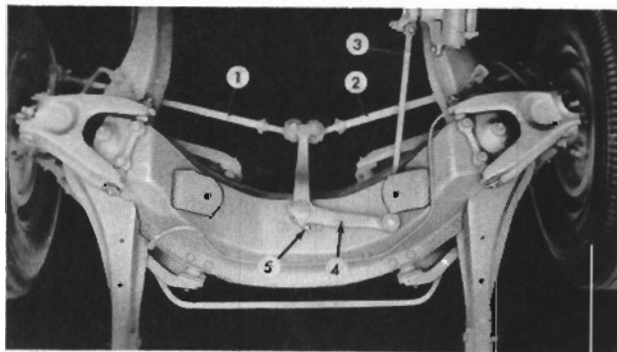

FIG. 34
Disconnect the tie rods (1 and 2, Fig. 34) and reach rod (3) from the bell crank (4). Remove the retaining bolt (pinch bolt) (5) which holds the bell crank to the shaft. Remove the lubrication fitting from within the hole at the rear of the crossmember. Remove the bell crank bearing bracket-to-crossmember bolts and remove the bracket and shaft assembly from the crossmember, slipping the shaft out of the bell crank. Remove the bell crank from the top of the crossmember.